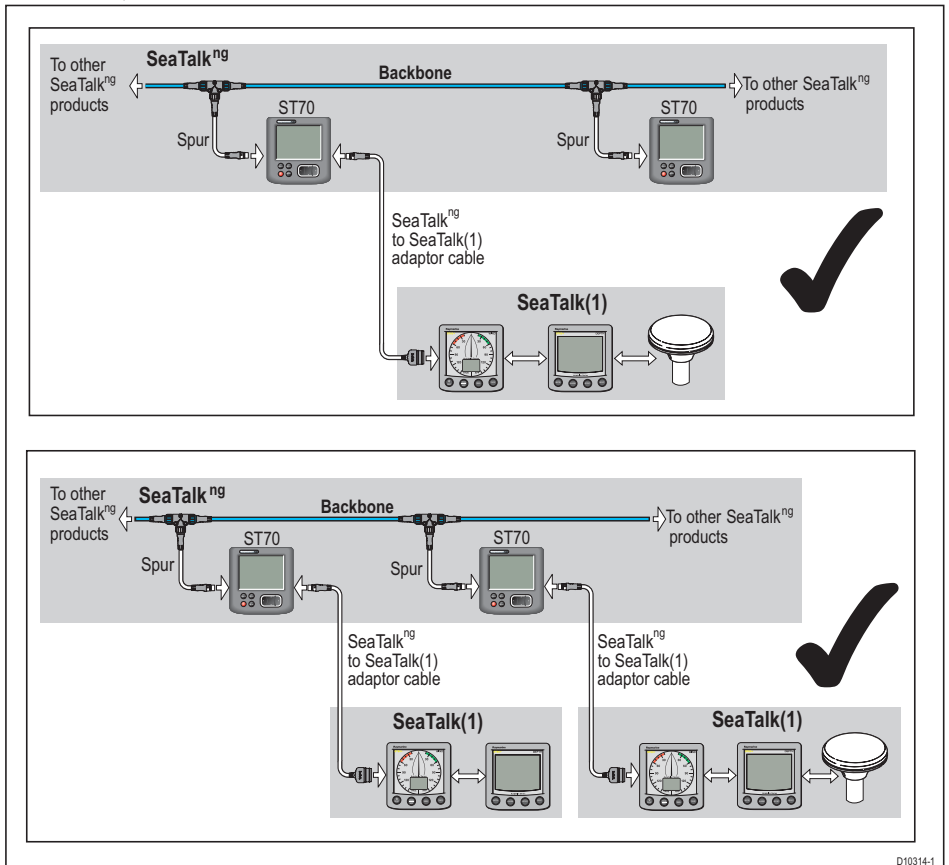
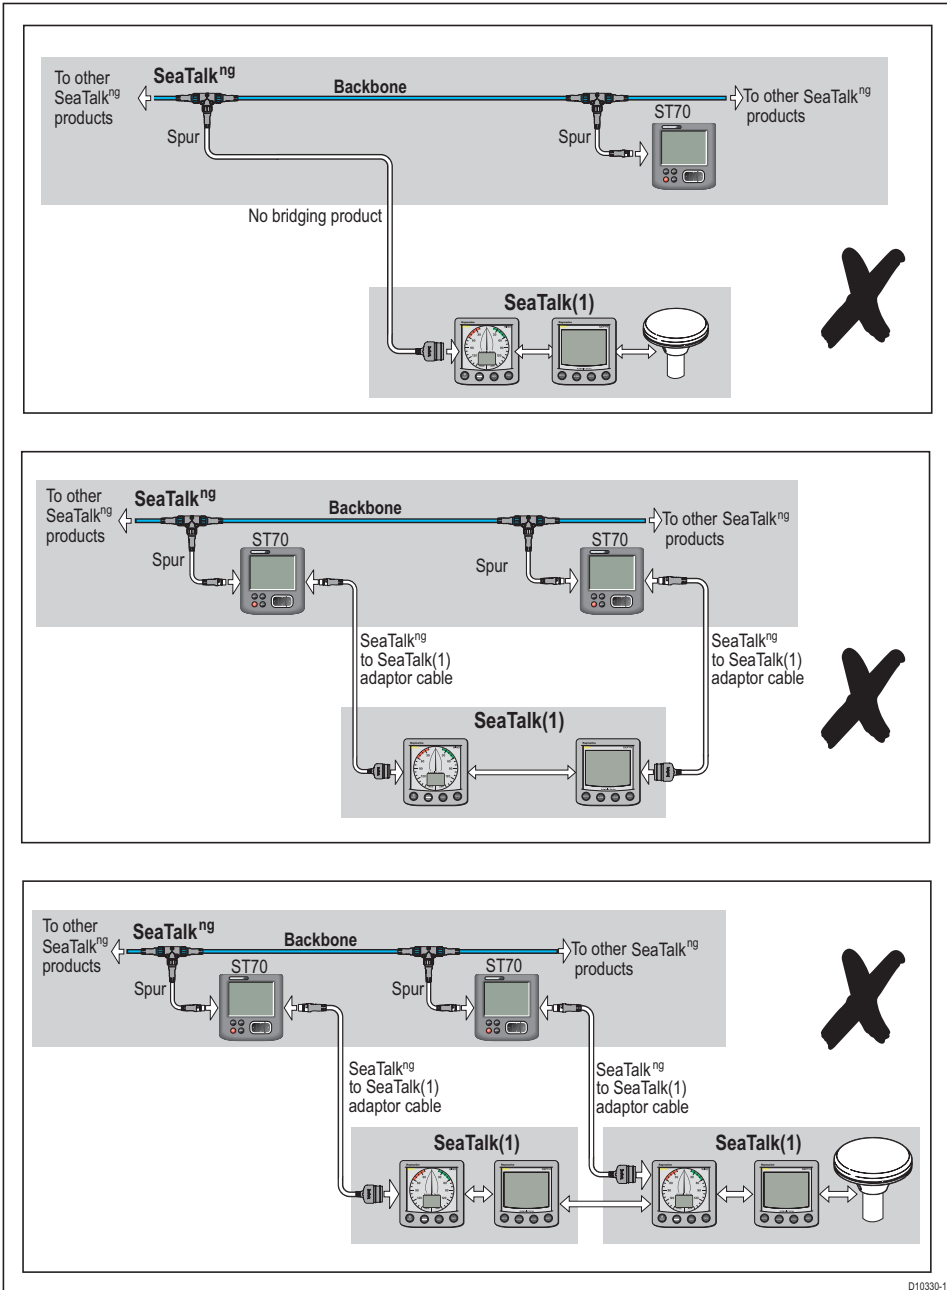

Figure 1-3 SeaTalkng/SeaTalk(1) acceptable scenarios
Figure 1-4 SeaTalkng/SeaTalk(1) unacceptable scenarios
- You can connect a single SeaTalk(1) network to SeaTalkng using an adaptor cable and one bridging product (e.g. ST70 instrument).
- You can connect two separate SeaTalk(1) networks to SeaTalkng using different adaptor cables and bridging products (e.g. ST70 instruments), but the two SeaTalk(1) networks must NOT be connected together.
Summaries of acceptable and unacceptable SeaTalkng/SeaTalk(1) scenarios are shown in *Figure 1-3* and *Figure 1-4* respectively.